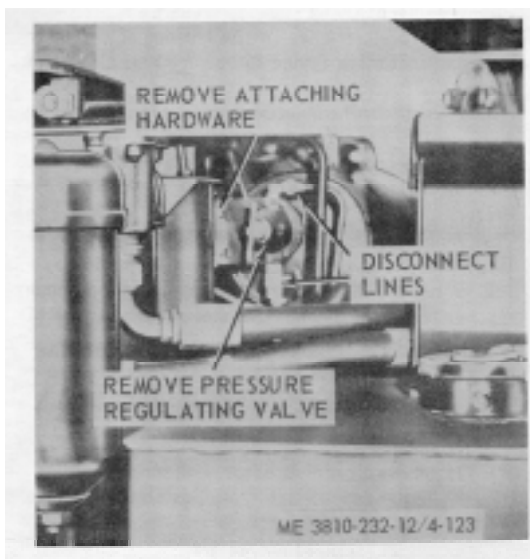

Figure 4-123. Pressure regulating valve, removal and installation.
(1) Relieve pressure from both sides of regulating valve.
(2) Remove pressure regulating valve as illustrated in figure 4-123.
(1) Clean all parts and dry thoroughly.
(2) Inspect for cracks, damaged threads, or other defects. Replace defective parts.
c. *Installation.* Install pressure regulating valve as illustrated in figure 4-123. Adjust the pressure regulating valve to apply 6 psig in hydraulic tank as indicated on pressure gage in figures 4-119 or 4-120.